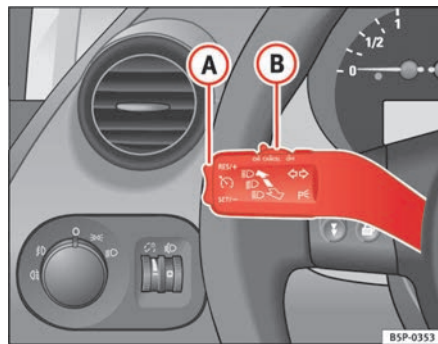

Fig. 149 Turn signal and main beam headlight lever switch and rocker switch for the cruise control
- Press the upper part **RES/+** of the rocker switch ⇒ fig. 149 **A** to increase the speed. The vehicle will continue to accelerate for as long as you keep the rocker switch pressed. When you release the switch, the new speed is stored.
Control of the set speed is switched off if you reduce speed by depressing the brake pedal. You can reactivate the control by pressing once on the upper part of the rocker switch **RES/+** ⇒ page 177, fig. 149 **A**.